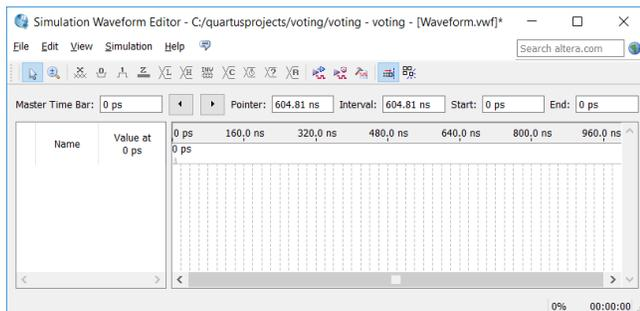

Figure 21. Blank waveform.
2. Simulation waveform editor window will appear such shown in Figure 21.